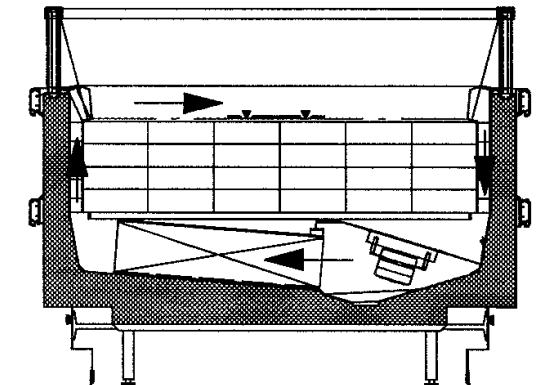

Fig. 2 – Open top cabinet with forced air circulation
- Open top cabinets, which cool the food compartment using forced air circulation and/or natural convection. Two types are shown in figures 2 and 3.